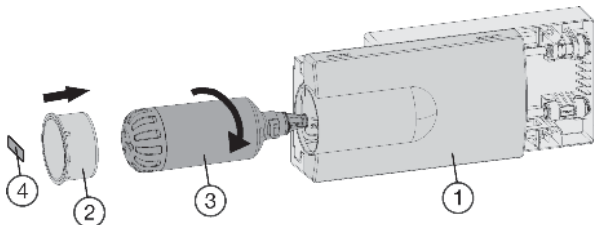

Fig. 50
- ▶ Insert the water filter Fig. 50 (3) and turn it approximately 100° clockwise until it locks into position.
- ▶ Slide the tray Fig. 50 (1) in.
- ▶ Place the cover Fig. 50 (2) on the filter.
- ▶ Write the date of the next filter replacement on the supplied adhesive label Fig. 50 (4) and affix it to the module.